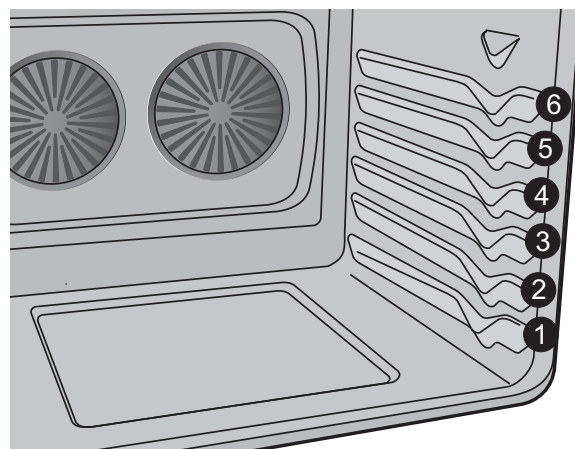

Fig. 14 Rack positions
- For best results when baking cakes using 2 racks, place cookware on oven rack positions 1 and 4 (glide rack) or 5 (flat rack). (Figure 14)